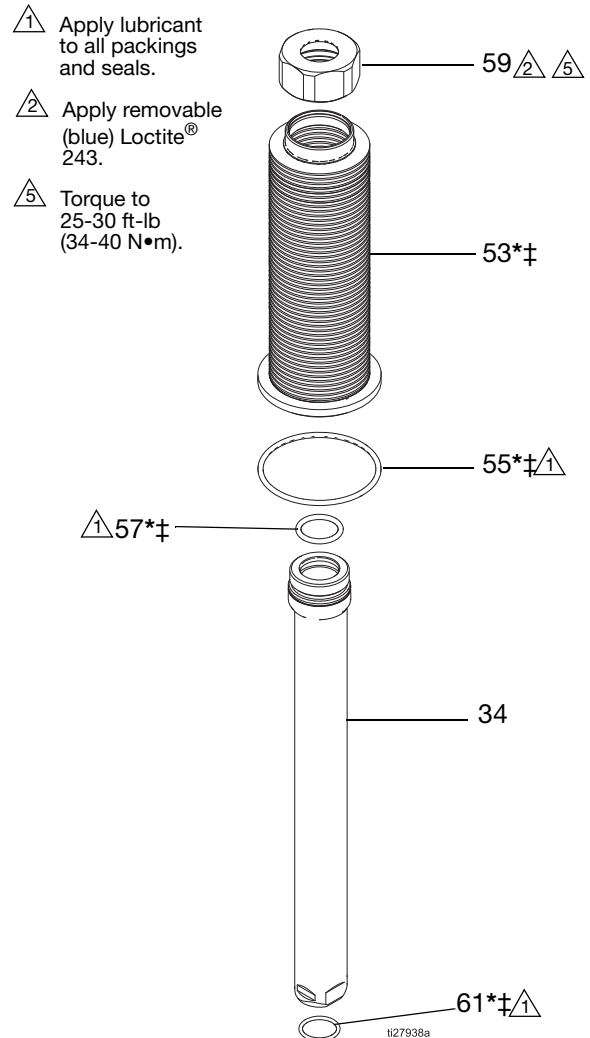

FIG. 4. Disassemble or Assemble the Bellows
- Remove the bellows o-ring (55).
- Remove the bellows assembly from the bellows chamber (45).
- NOTE:** The bellows assembly includes the bellows nut (59), the bellows (53), o-rings (57 and 61), and the bellows sleeve (34). To disassemble, see instructions on page 8 and FIG. 4 on page 9.
- Remove the four capscrews (40) from around the base of the bellows chamber (45). Lift the bellows chamber straight up off the fluid outlet housing (16). Be careful not to damage the piston rod (17).
See FIG. 4, page 9.
7. Remove the bellows o-ring (55). See FIG. 4, page 9.
8. Remove the bellows assembly from the bellows chamber (45). Remove o-ring (57).
9. If the bellows has failed, also remove the breather valve (26) from the top plate. Clean the fluid path of any clogged paint.